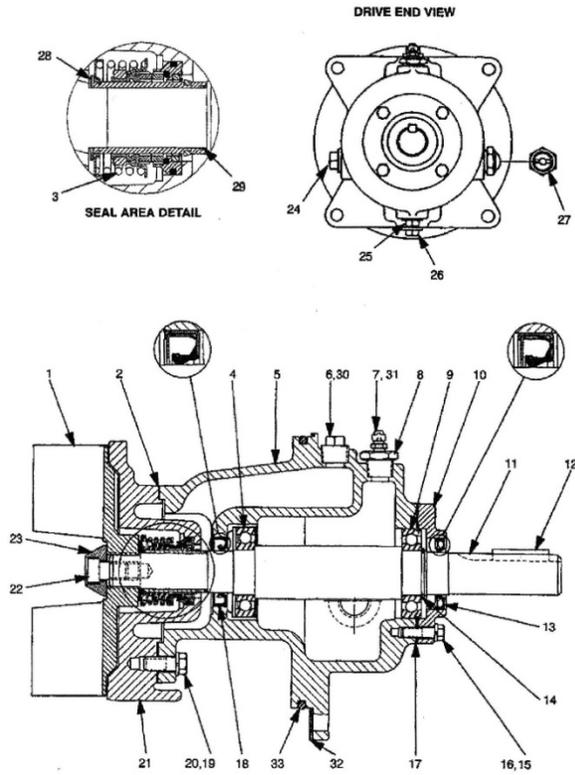

Figure 5a. Repair Rotating Assembly
Install the shaft key (12, **Figure 5a and 5b**) and reconnect the power source. Be sure to install any guards used over the rotating members.
(Figure 5a and 5b)